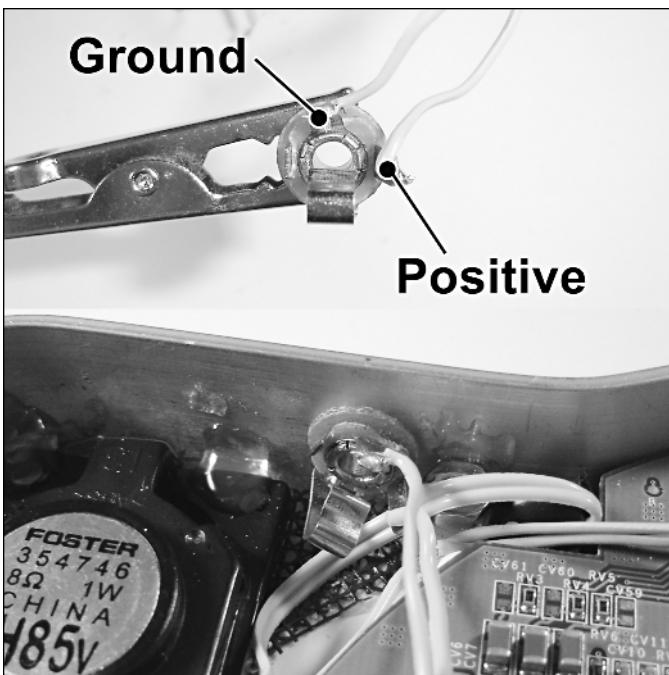

FIGURE 10-34: Wiring the charging jack and installing it in the unit.
1. Take the 1/8" panel-mount jack (Radio Shack catalog #274-251) and attach two 4" wires to it, as shown in Figure 10-34. One wire connects to the center ring; this is ground. The other wire connects to the large bending tab; this is positive.